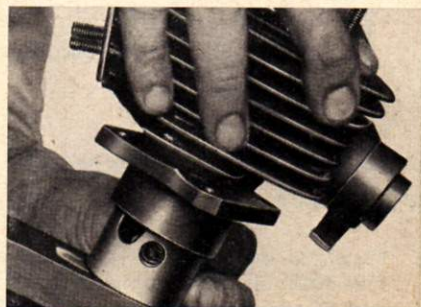

Fig. 61 Fitting the cylinder VI / 56 / 2096
5. Press the piston rings together, with your fingers or a tensioning strap, and push the cylinder over the piston (see fig. 61).